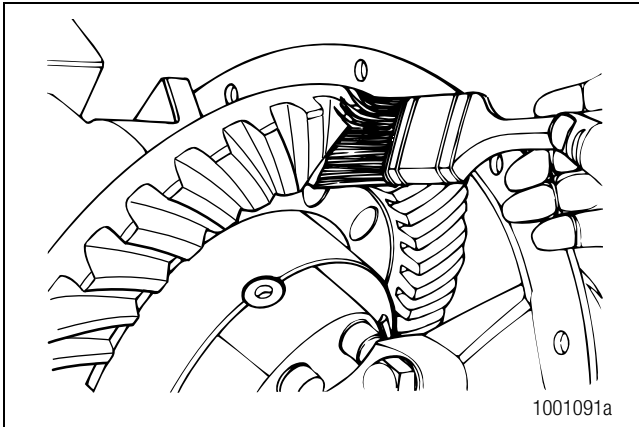

Figure 5.64
2. Apply a marking compound onto approximately 12 gear teeth of the ring gear. Rotate the ring gear so that the 12 gear teeth are next to the drive pinion. Figure 5.64.